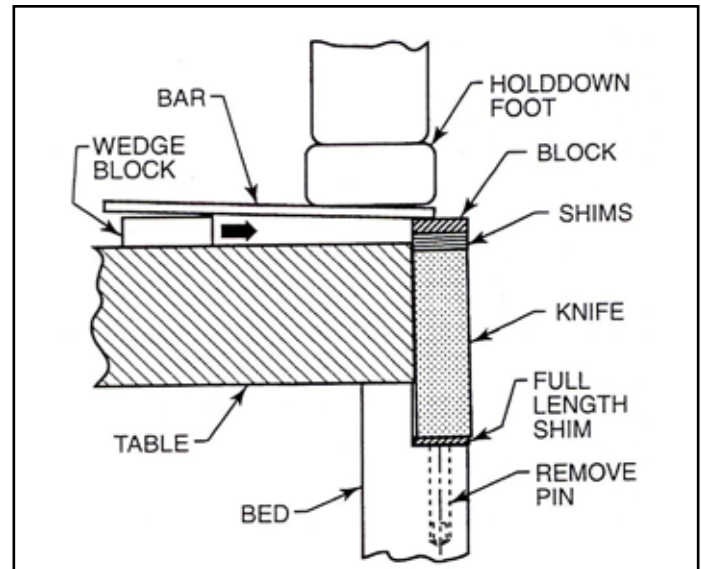
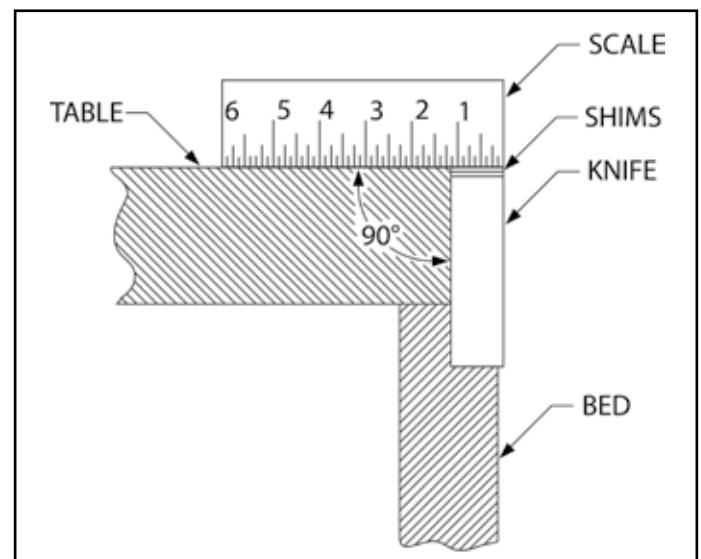

Figure 9-9 - Compress Shims
Figure 9-10 - Check Shim Pack Thickness
8. Compress the shims as shown in Figure 9-9 by moving the wedge block toward the knife. Check thickness of the shim pack with a scale as shown in, Figure 9-10. Shears have a 90° knife seat. The knife should be .000"-.004" (.000-.102mm) below the top surface of the table. If necessary, add or remove shims to obtain the correct shim pack thickness.